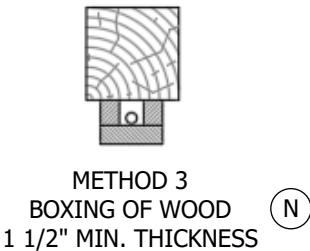

FIGURE 2
- (VI) ALL CONDUIT FITTINGS MUST BE RAINTIGHT. APPROVED WIRE, NOT LESS THAN NO. 8 AWG, SHALL BE USED IN THE SERVICE ENTRANCE CONDUIT. SEE FIGURE 2 FOR RIGID IRON PROTECTIVE COVERING.
- (IX) RECEPTACLES USED TO CONNECT PORTABLE TOOLS SHALL BE 3-POLE TYPE FOR SINGLE-PHASE MOTORS AND 4-POLE TYPE FOR THREE-PHASE MOTORS, ONE CONTACT TO BE USED FOR GROUNDING CONNECTION. WHERE MORE THAN ONE VOLTAGE TYPE IS USED, RECEPTACLES SHALL BE NON-INTERCHANGEABLE.
- (XV) ALL METER POLES MUST HAVE THE NUMERIC PORTION OF THE STREET ADDRESS FIRMLY ATTACHED AND FACING THE STREET OR DRIVABLE SURFACE. PLASTIC OR METALLIC NUMBERS OF THE TYPE USED FOR HOUSE ADDRESSES ARE ACCEPTABLE.